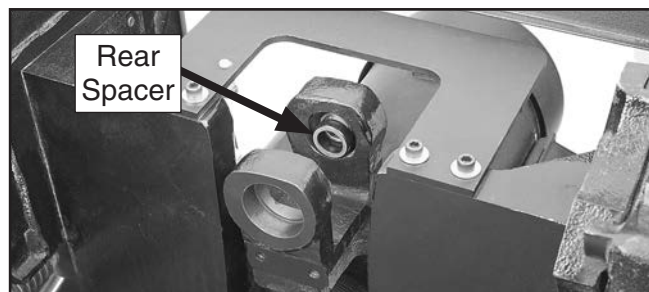

Figure 141. Location of rear spacer.
15. Remove rear spacer from bearing housing (see **Figure 141**).